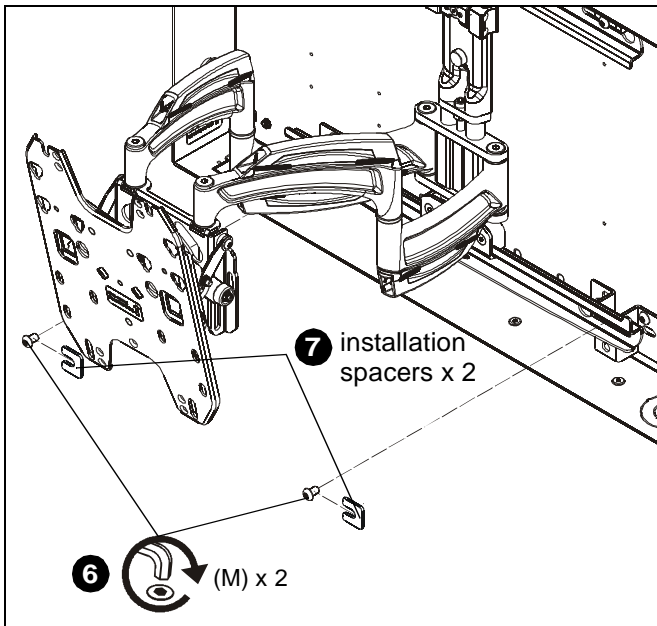
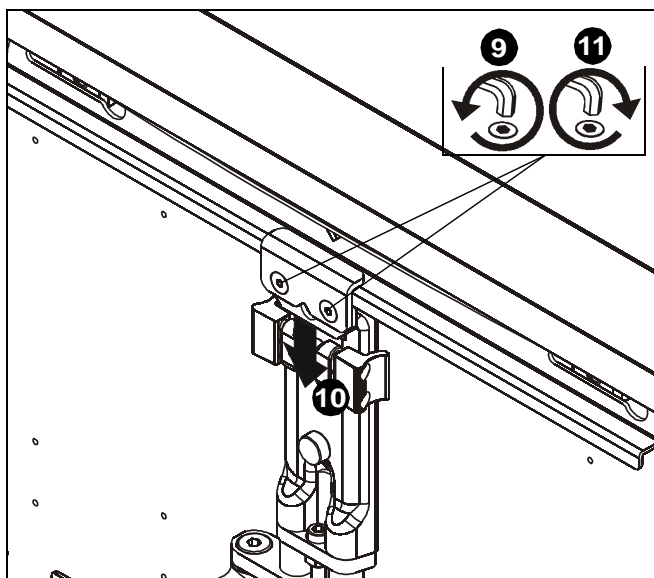

Figure 10
Figure 11
- Use two 5/16-18 x 1/2" button head cap screws (M) to loosely attach lower wall plate of TS318TU assembly to lower attachment brackets (N). (See Figure 10)
- Place two installation spacers (included with TS318TU) over two 5/16-18 x 1/2" button head cap screws (M). (See Figure 10)
- Tighten two screws (M) to secure lower wall plate to lower attachment brackets.
- Loosen flat head cap screws on upper carriage rail in order to loosen white spacer. (See Figure 11)
- Remove white spacer from mount. (See Figure 11)
- Tighten flat head cap screws. (See Figure 11)